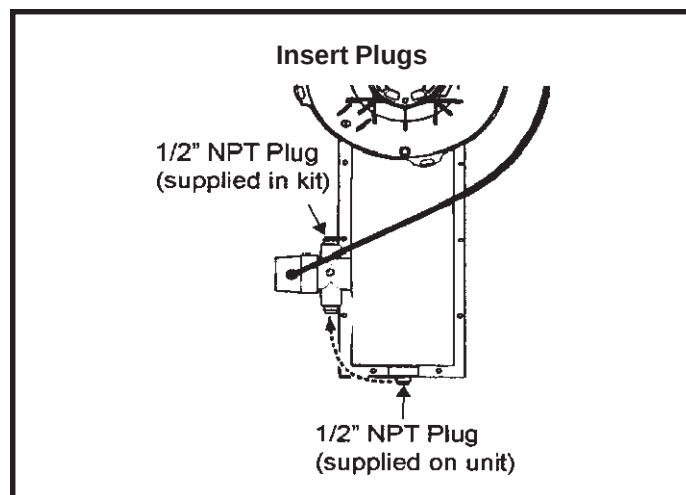

Figure 27
1. Relocate 1/2" NPT plug installed on flue pan to one side of the internal trap assembly (as shown in Figure 27).